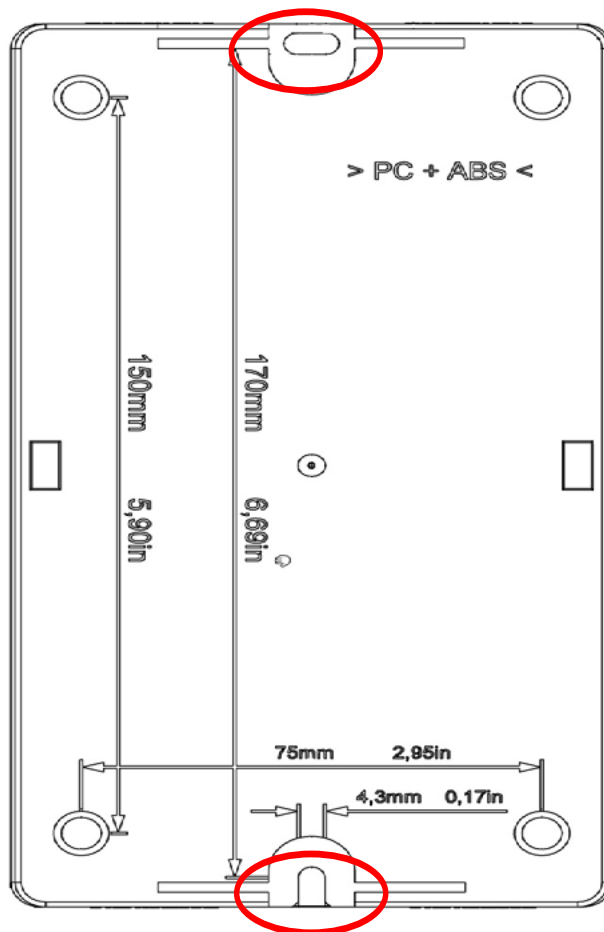

Figure 4: Mounting location in backplate of RSD
- There are 2 mounting points on the back plate of the enclosure. They are marked by red boxes in Figure 4 below.